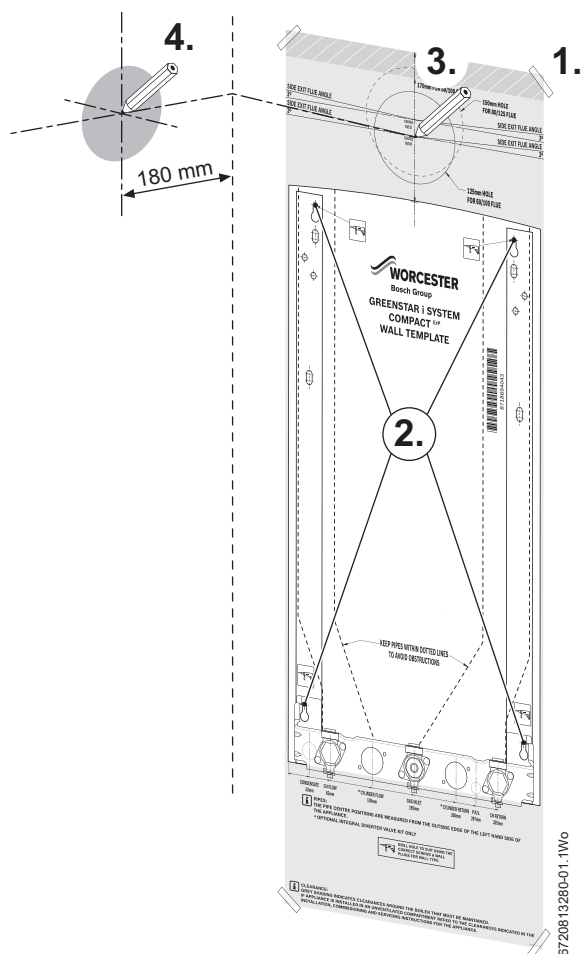

Fig. 22 Marking the flue position
- ▶ The figure 22 shows the boiler wall mounting template with the flue centre lines of both the 100mm and 125mm flue systems.
- 3. Mark the centre line of the flue to be used (3); the external diameter of the hole can also be marked if required.